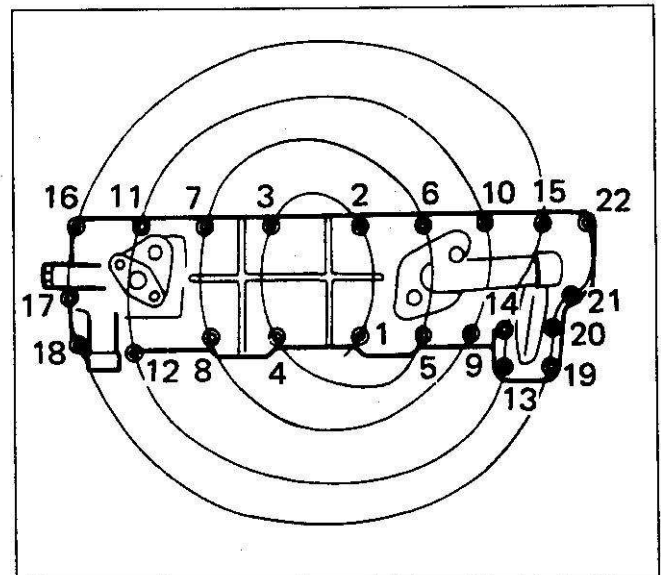

Figure 6. Oil Cooler Mounting Bolts Tightening Sequence
9. Install the oil cooler element (10) to oil cooler housing (15) using new gaskets.
10. Install the oil cooler mounting bolts (14). Tighten in numerical sequence as shown in figure 6.